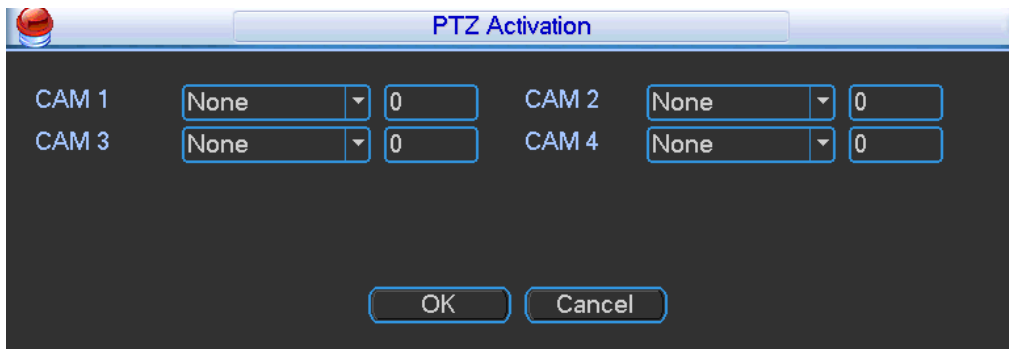

Figure 4-64
- PTZ activation: Here you can set PTZ movement when an alarm occurs. System can go to a preset, when there is an alarm. Click “select” button, you can see an interface is shown as in Figure 4-64.